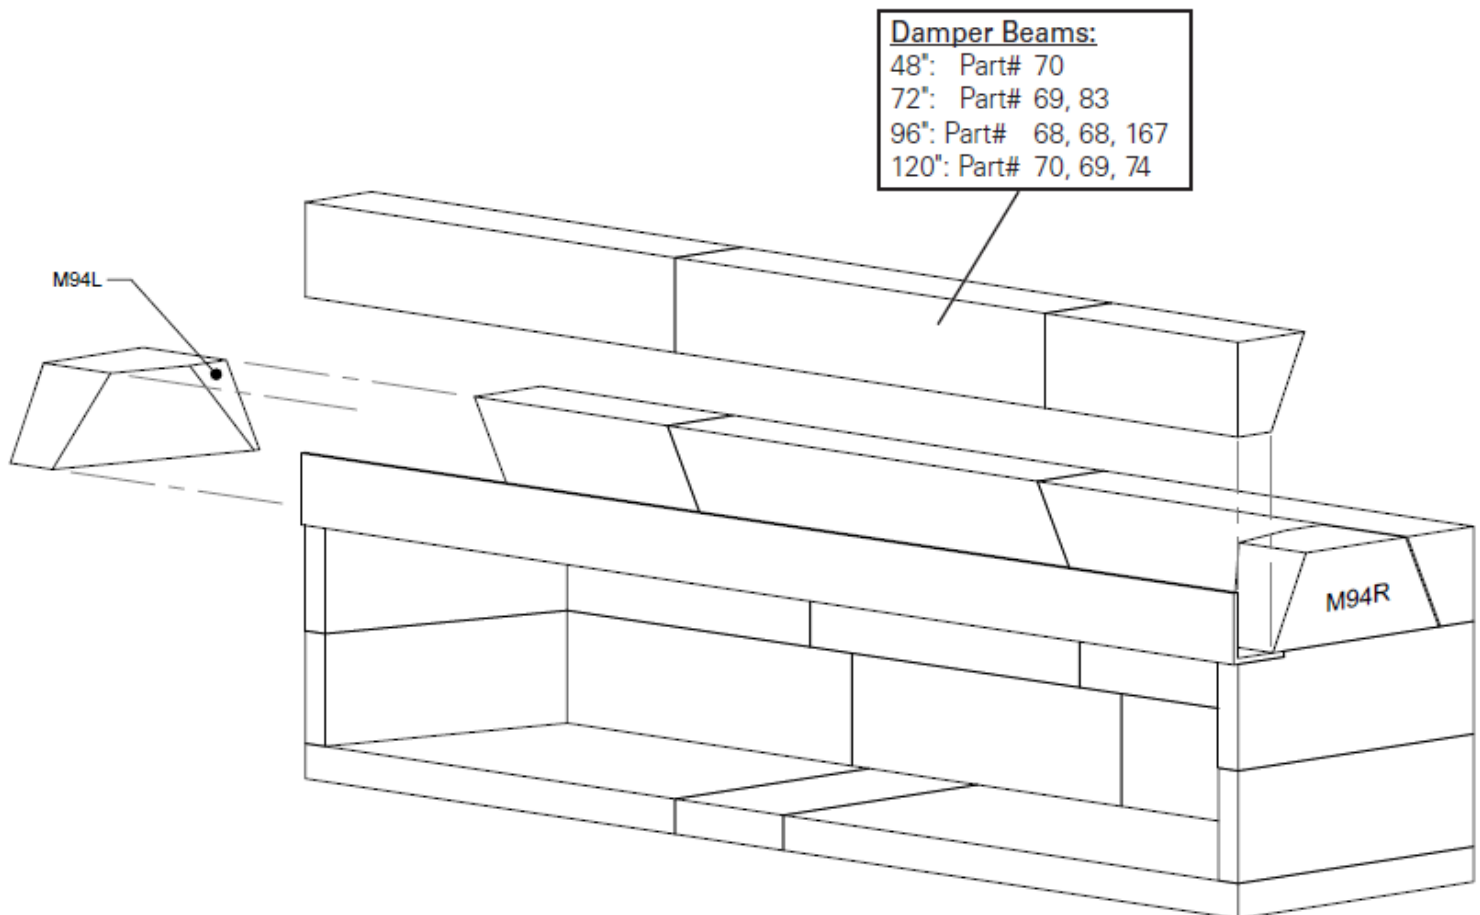

FIGURE 13
- 6) The fireplaces come with an 8"-thick damper beam assembly, a component group that is to be assembled on top of the firebox side walls, back walls, and steel angle iron (no steel angle iron in 48" model). The damper beam assembly consists of long lintel pieces and two (2) short damper end blocks. The lintels will be equal to the width of the fireplace model that they serve. These components both sit on their narrow base so that their beveled face points down and into the firebox interior (**Figure 13**).
The damper end blocks are designed to sit on the firebox side wall between the front lintel and the back lintel. Each of the damper end blocks are designed for a specific side of the unit. When properly set, the vertical face of each damper end block will be flush with the outside face of the firebox side wall. Be sure to keep the wide end of the damper end block towards the rear damper beam. (**Figure 13**).